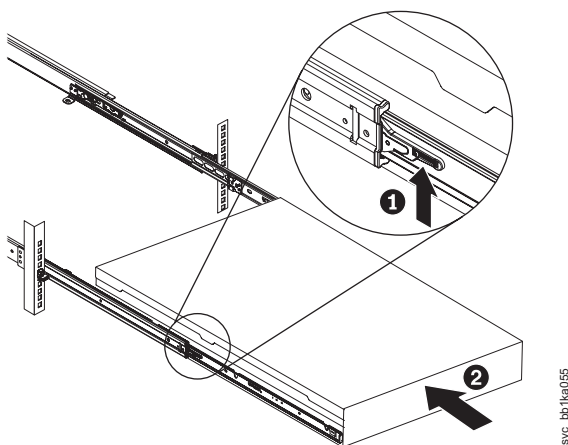

Figure 73. Raising the SAN Volume Controller 2145-CF8 locking levers of the slide rails of the rack
7. Lift the locking levers (**1** in Figure 73) on the slide rails and push the server **2** all the way into the rack until it clicks into place.